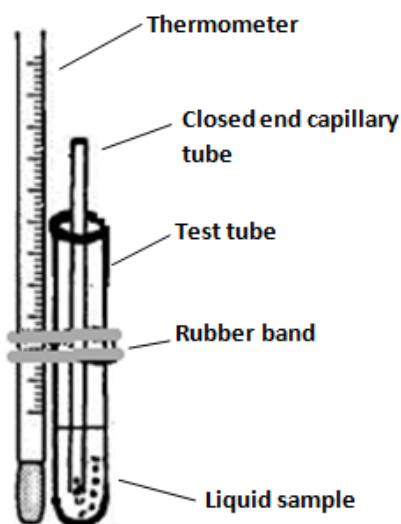

Figure 3: Sample, capillary tube and thermometer set-up for measuring boiling point
1. Attach a test tube to a thermometer by means of a rubber band see (Figure 3).